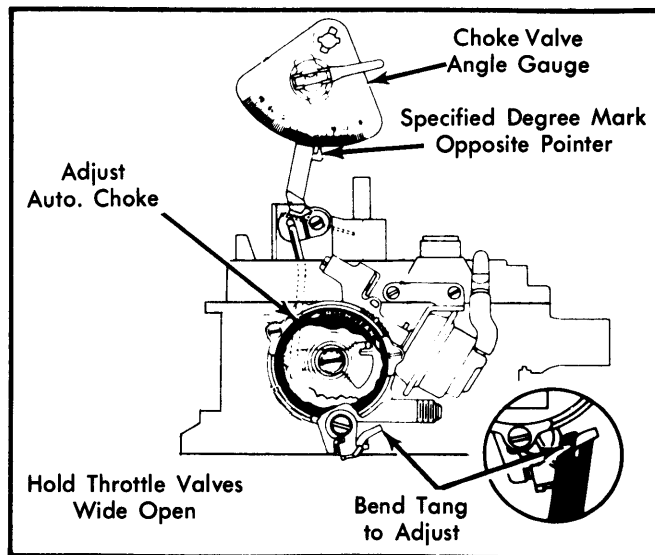

Fig. 7 Adjusting Choke Unloader
- 1) Adjust automatic choke as previously outlined. Hold throttle valves wide open. See Fig. 7.